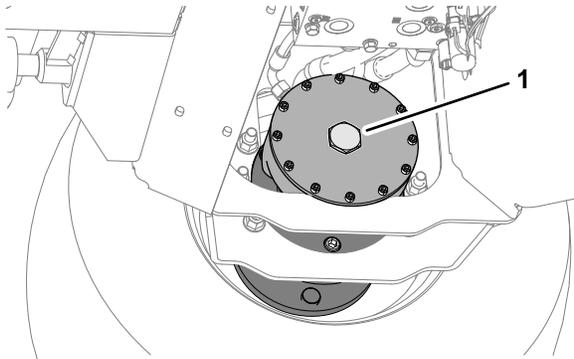

Figure 41
5. At the right, front wheel motor brake assembly remove the hex plug (**Figure 41**).